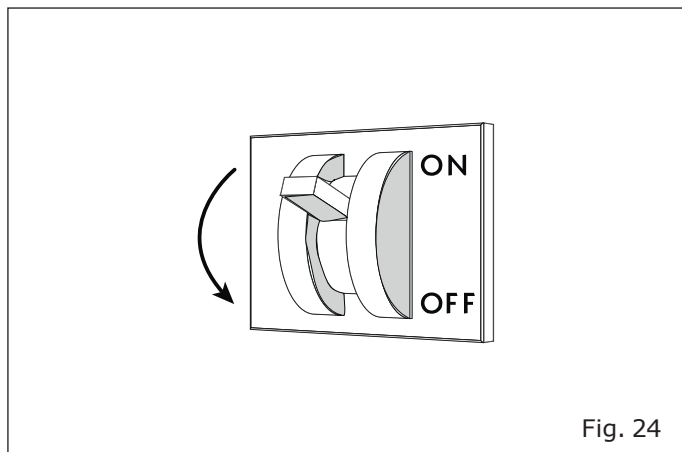

Fig. 24
- Disconnect the power supply to the cabinet using the wall-mounted main switch-disconnector ("Fig. 24").